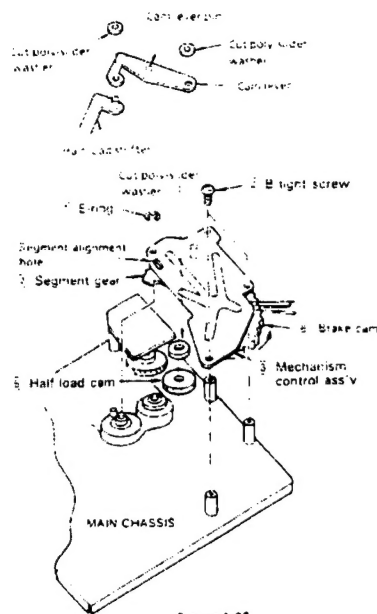

Figure 1-25
• Removal (Fig. 1-25)
2. Remove the E-ring ①.
3. Remove the three screws ② (LX-HZ3027GEFD).
4. Remove the mechanism control assembly ③.
• Installation (Fig. 1-25)
1. Remove the cut poly-slider washer ④.
2. Remove the relay gear (B) ⑤.
3. Adjust the position of the shifter assembly (A) 11 so that the alignment hole ⑥ of the chassis is aligned with the alignment holes of the shifter assembly and brake drive lever 13. (Remove the main brake spring 14 for easier positioning.)
4. Remove the tension arm spring, and fully turn loading gears (A) ⑧ and (B) ⑩ in the direction indicated by the arrow ⑨, to get the mechanism in the unloading mode.
5. Turn the brake cam ⑥ of the mechanism control assembly in the direction indicated by the arrow until the alignment hole ⑥ of the segment gear is at the center of the segment alignment hole for the auxiliary angle.
6. Attach the mechanism control assembly ③ to the main chassis. This can be done easily if the shifter assembly (A) 11 is moved to the left and right.
- Secure the three screws ②.
7. Put the E-ring ① on.
9. Install the relay gear (B) ⑤.